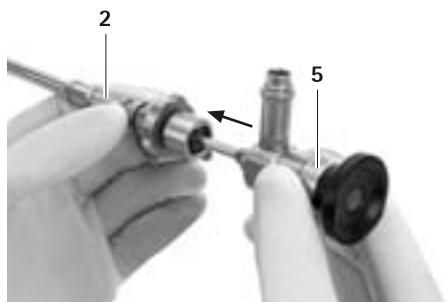

Fig. 2
- Axially insert MINOP TREND endoscope 5 in MINOP TREND suction/irrigation sheath 2. When doing this make certain that the lock of MINOP TREND suction/irrigation sheath 2 is open and the pin fits into the groove at the bayonet coupling of MINOP TREND endoscope 5, see Fig. 2.